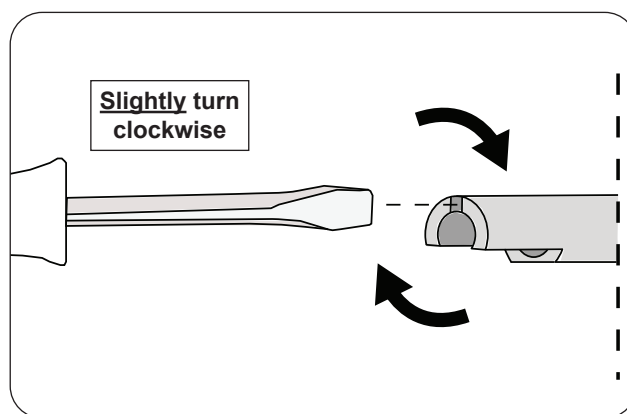

Fig. 46-2 Stem adjustment
2. Insert a flathead screwdriver into the split portion of the stem and **GENTLY** turn the screwdriver clockwise. **Be cautious!** Only a slight turn is needed as the stem is flexible. See Fig. 46-2.